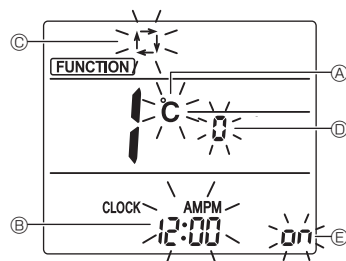

Fig. 6-6
The Screen display setting screen will be displayed. (Fig. 6-6)
6.8.2. Changing the temperature unit (Fig. 6-6 A)
- Press the **TEMP** button ⑤.
- Each time the **TEMP** button ⑤ is pressed, the setting switches between **C** and **F**.
6.8.3. Changing the time display (Fig. 6-6 B)
- Press the **TIME** button ⑥.
- Each time the **TIME** button ⑥ is pressed, the setting switches between **12:00** and **24:00**.
6.8.4. Changing the AUTO mode (Fig. 6-6 C)
- Press the **AUTO** button ⑦.
- Each time the **AUTO** button ⑦ is pressed, the setting switches between **1** and **2**.
6.8.5. Changing the pair No. (Fig. 6-6 D)
- Press the **PAIR** button ④.
- Each time the **PAIR** button ④ is pressed, the pair No. 0-3 changes.